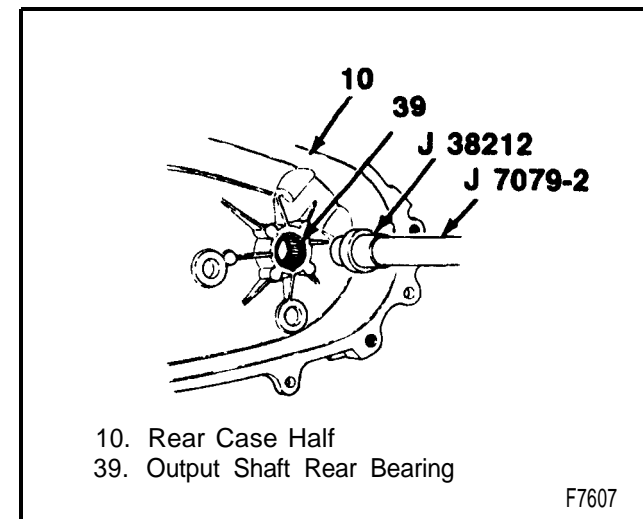

Figure 22 - Installing the Output Shaft Rear Bearing
7. Output shaft rear bearing (39) to the rear case half (10) using J 7079-2 and J 38212 (figure 22).